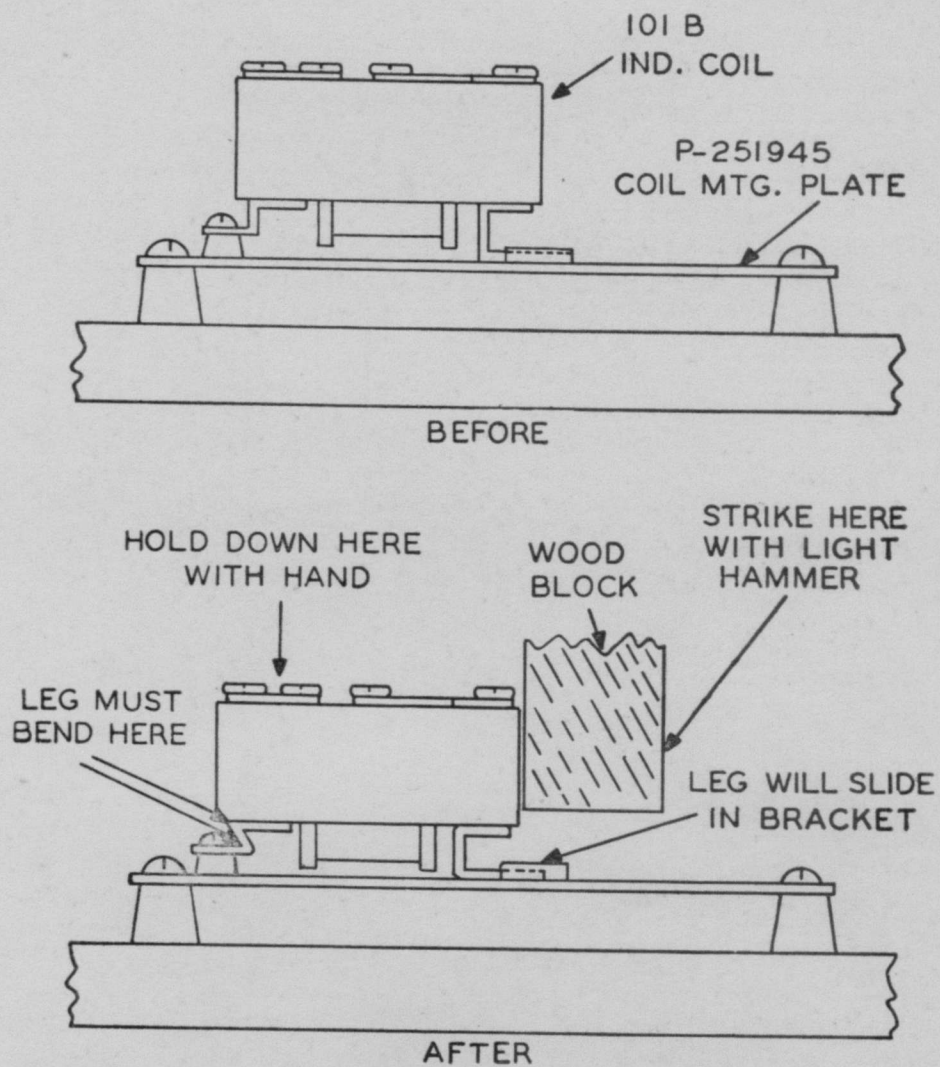

Fig. 21—Moving Induction Coil to Clear Coin Chute Electromagnet
4.16 196- and 197-type coin collectors manufactured prior to the third quarter of 1954 have a very close tolerance between the induction coil and the coin-chute electromagnet. The time of manufacture is indicated by a marking such as III 54 which means third quarter of 1954. This mark is inside the upper housing near the code number of the coin collector. If there should be any interference when the reject button is pressed, it will be necessary to move the induction coil slightly to the left. This can be done by bending the leg on the induction coil as shown in Fig. 21. **It will be necessary to move the coil only about 3/32 inch.**